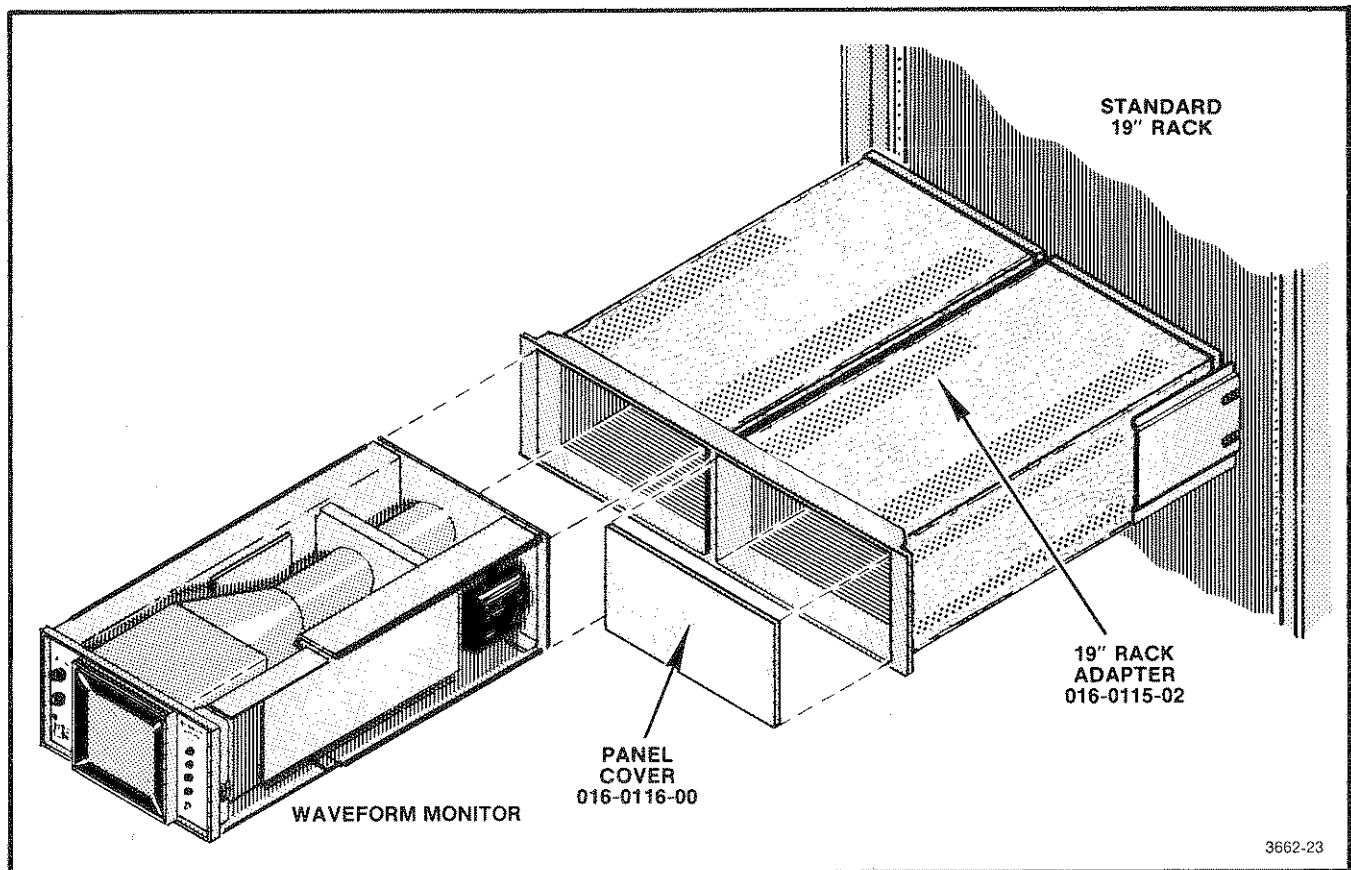
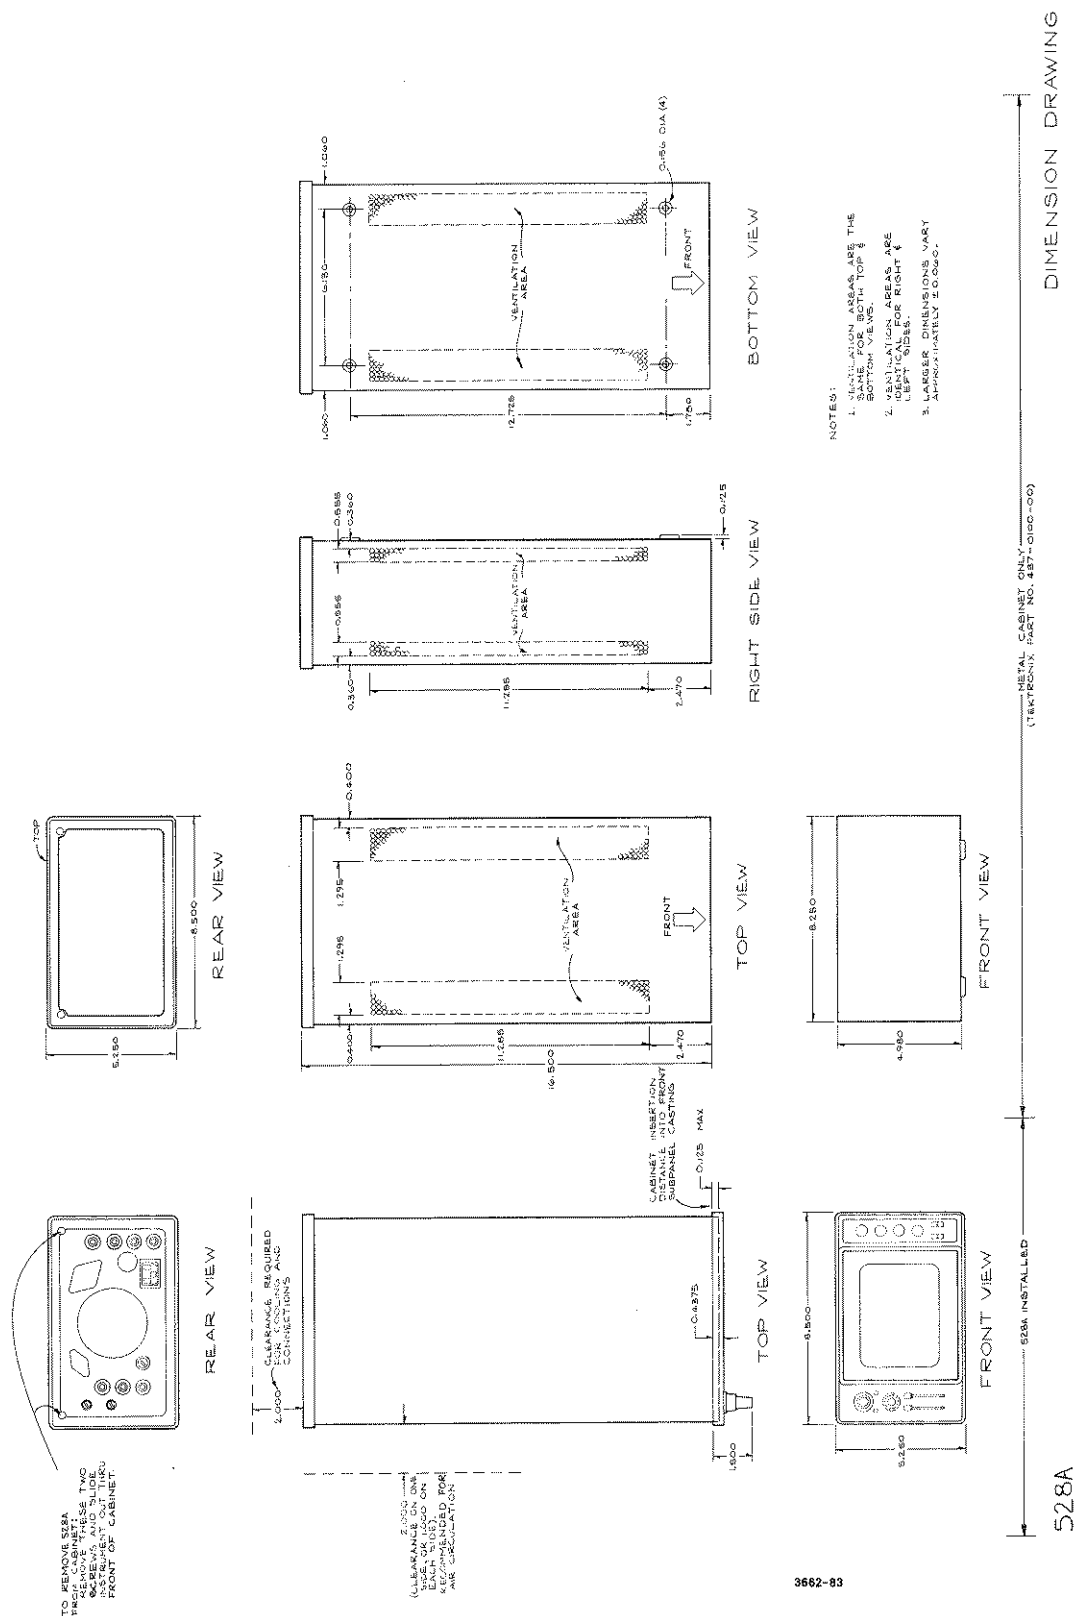
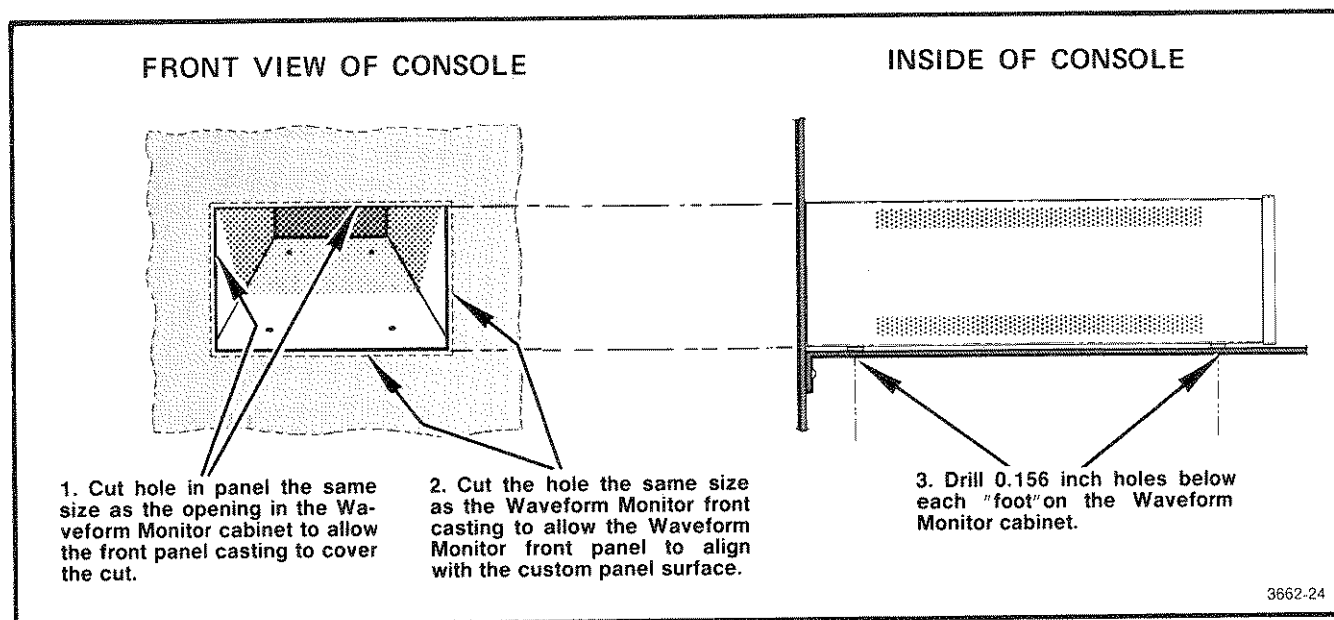

Fig. 3-12. Rack installation in the rack adapter (cradle mount).
Fig. 3-13. Dimensional drawings of the 528A with cabinet.
Fig. 3-14. Custom installation details.
The 528A is cooled by convection air flow through the instrument. For information concerning minimum clearance needed around the instrument for proper air circulation, refer to Fig. 3-13.
tor. See the listing at the rear of this section for Tektronix part numbers for rack adapters and other mounting hardware. If only one 528A is mounted on the rack adapter, a panel assembly that goes around the 528A cabinet front dimension and covers the space for the other half of the rack width can be obtained through your local Tektronix Field Office or representative. See the rear of this section for Tektronix part numbers. Fig. 3-12 shows details of the rack installation. Figure 3-13 shows dimensions of the 528A in the metal cabinet and locations of the holes in the bottom of the cabinet depressions.
The dimensional drawings in Fig. 3-13 can be used as a reference for planning a custom installation. There are two possible ways to install the 528A: (1) Use the front dimen-
To install the instrument using the first method, the following procedure is suggested (refer to Fig. 3-13 and Fig. 3-14):